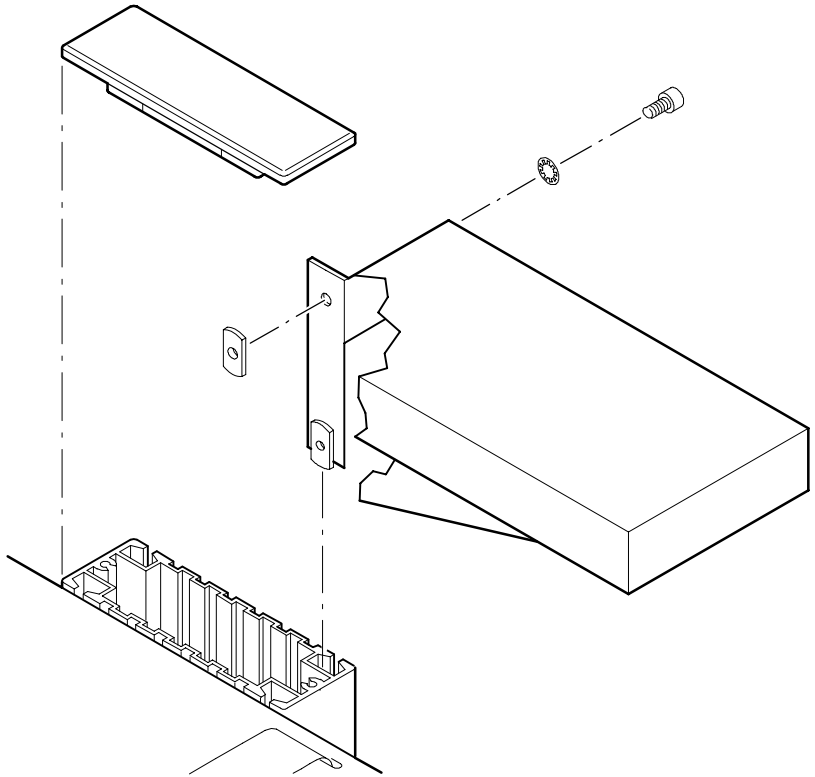

Figure 1: Installing the mouse shelf mounting hardware.
2. Loosely install the hardware in the bracket as shown in Figure 1.